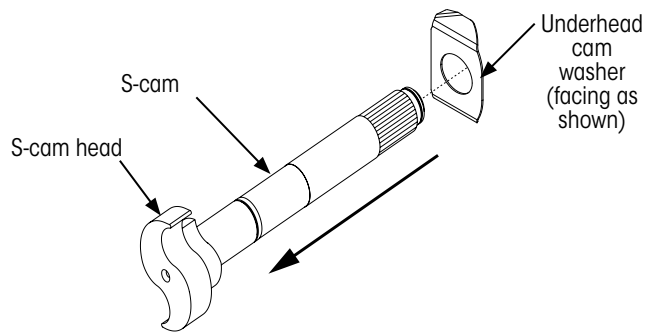

Figure 13: Installing the underhead cam washer
3. **Slide** the underhead cam washer onto the new S-cam until it contacts the S-cam head as shown in Figure 13.